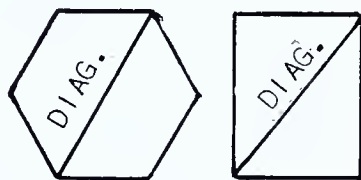

FIG. 240 — *Diagonals*
**DIAGONAL** — Fig. 240. The distance measured between opposite vertices of angles formed by the boundary lines of a rectilinear or polyhedral figure.